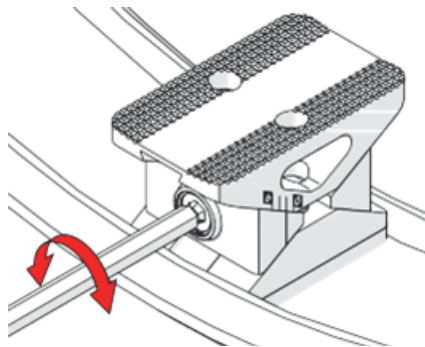

Figure 1-18 Adjust the foot
1. Turn the adjustment mechanism using a 6mm hex driver (see Figure 1-18 on page 38). The index markings on the feet are millimeter measurements.